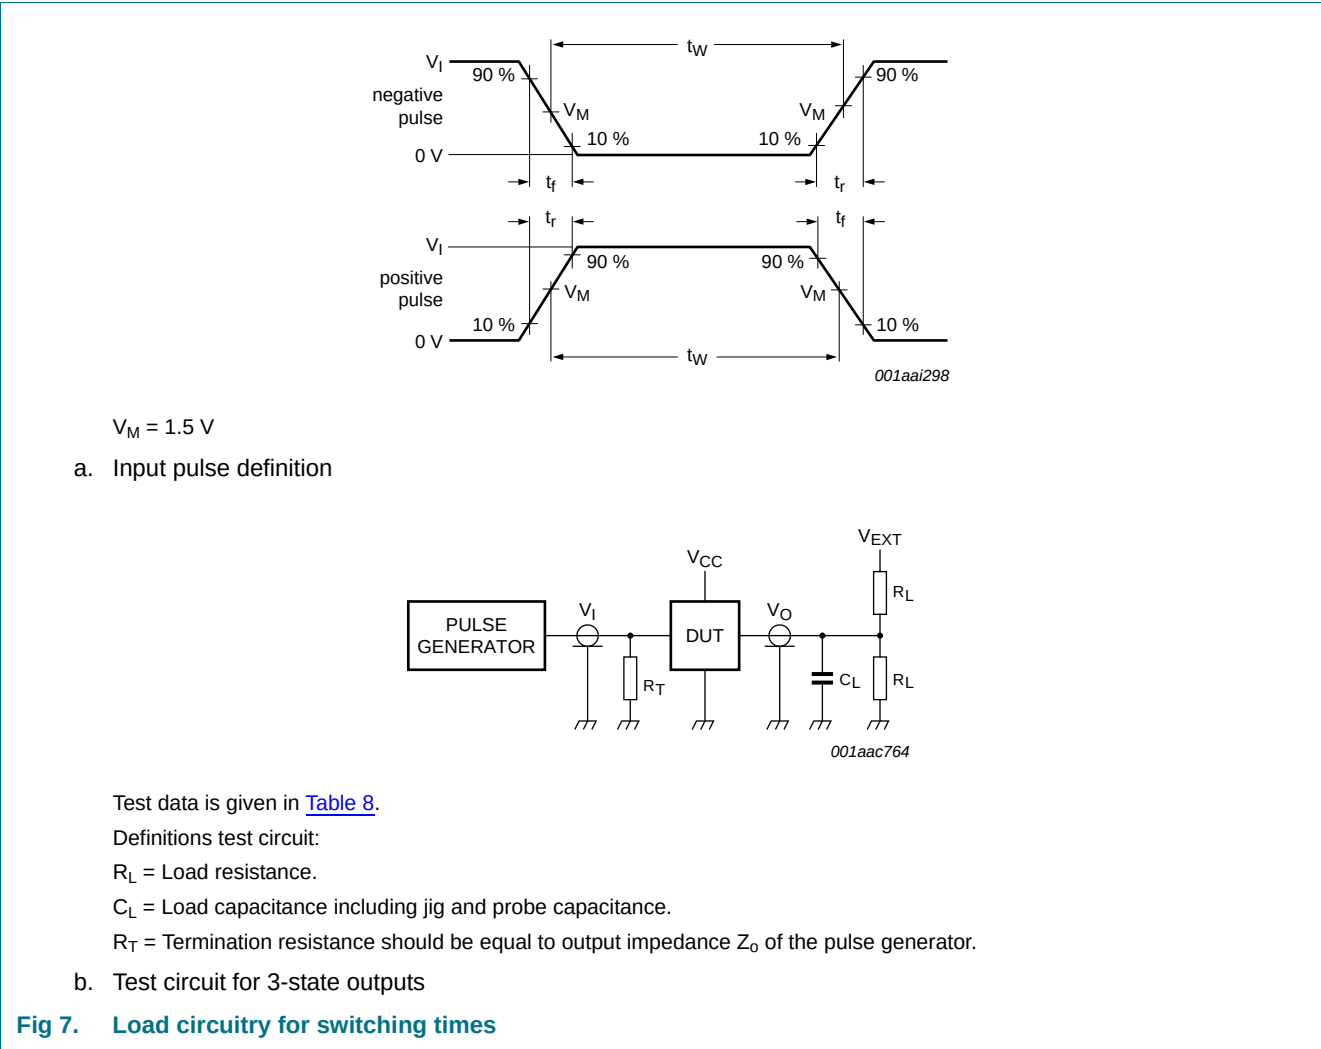

Fig 7. Load circuitry for switching times
*GND = 0 V. For test circuit, see Figure 7.*